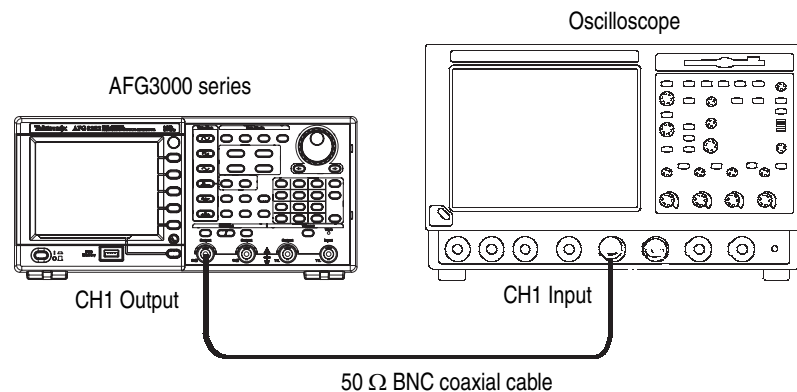

Figure 4-10: Rise-Fall time tests
1. Connect the arbitrary/function generator to the oscilloscope as shown in Figure 4-10.